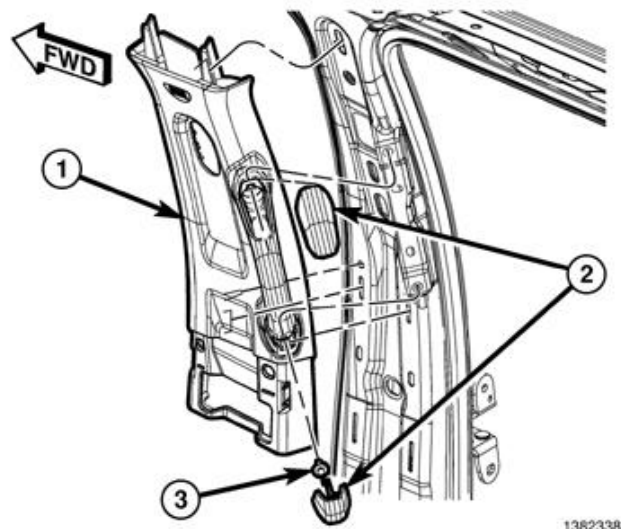

Figure 49 – B-Pillar Upper Trim Panel
9. On the B-pillar, use a small flat-bladed tool to carefully open the two fastener covers (2) located on the grab handle (Figure 49).
10. Remove the two bolts (3) that secure the grab handle to the B-pillar (Figure 49).
11. Using a trim stick C-4755 or equivalent, release the retaining clips that secure the B-pillar upper trim panel (1) then position the trim panel out of the way. It is not necessary to remove the seat belt from the trim panel (Figure 49).